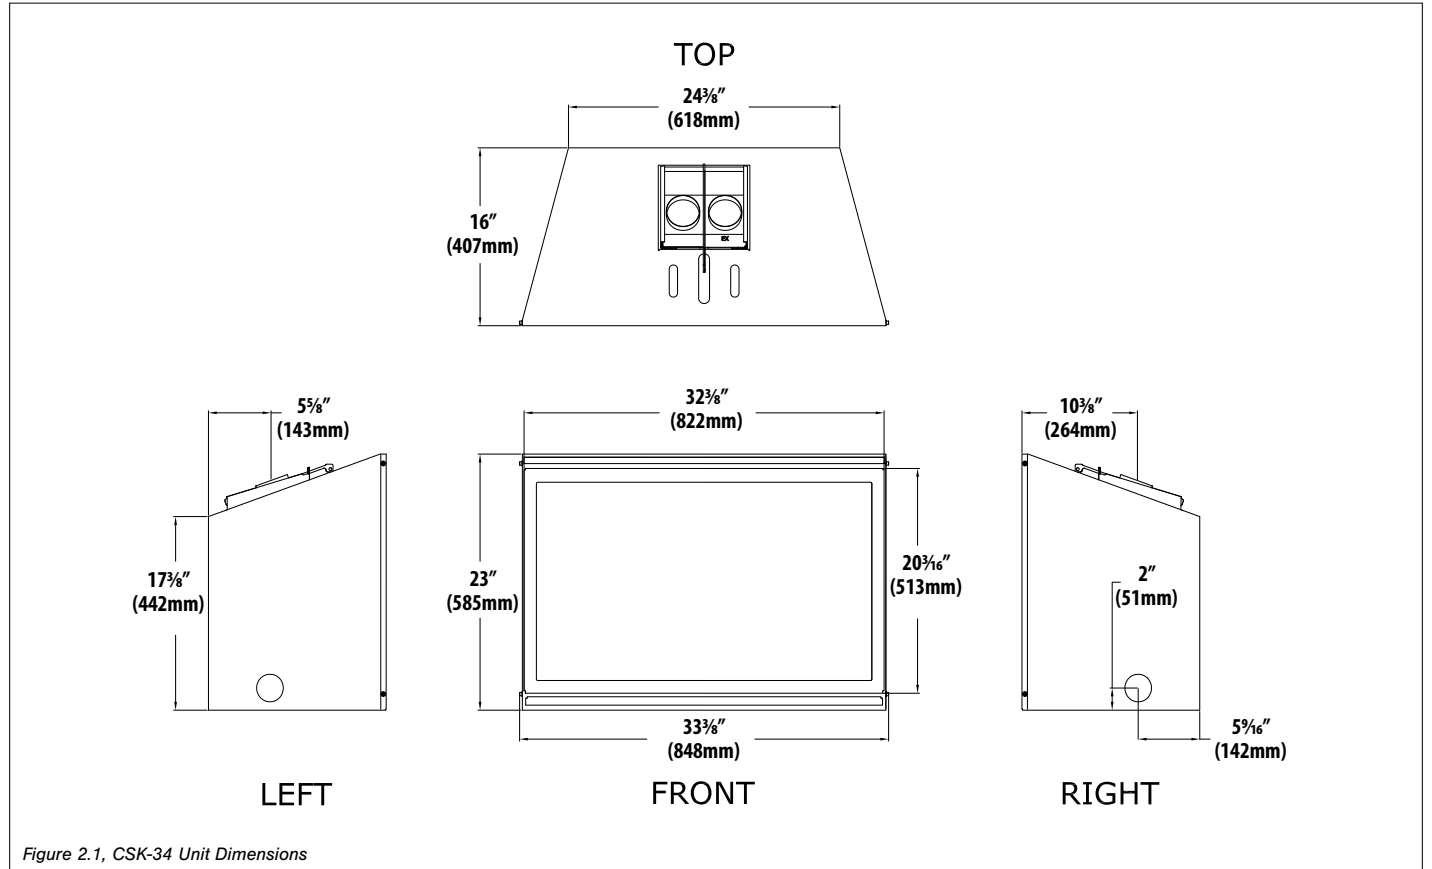

Figure 2.1, CSK-34 Unit Dimensions
- Refer to Section 2.3 Appliance Dimensions (Figure 2.1) on page 9 for electrical outlet box location to run any necessary electrical wiring to the gas fireplace insert.